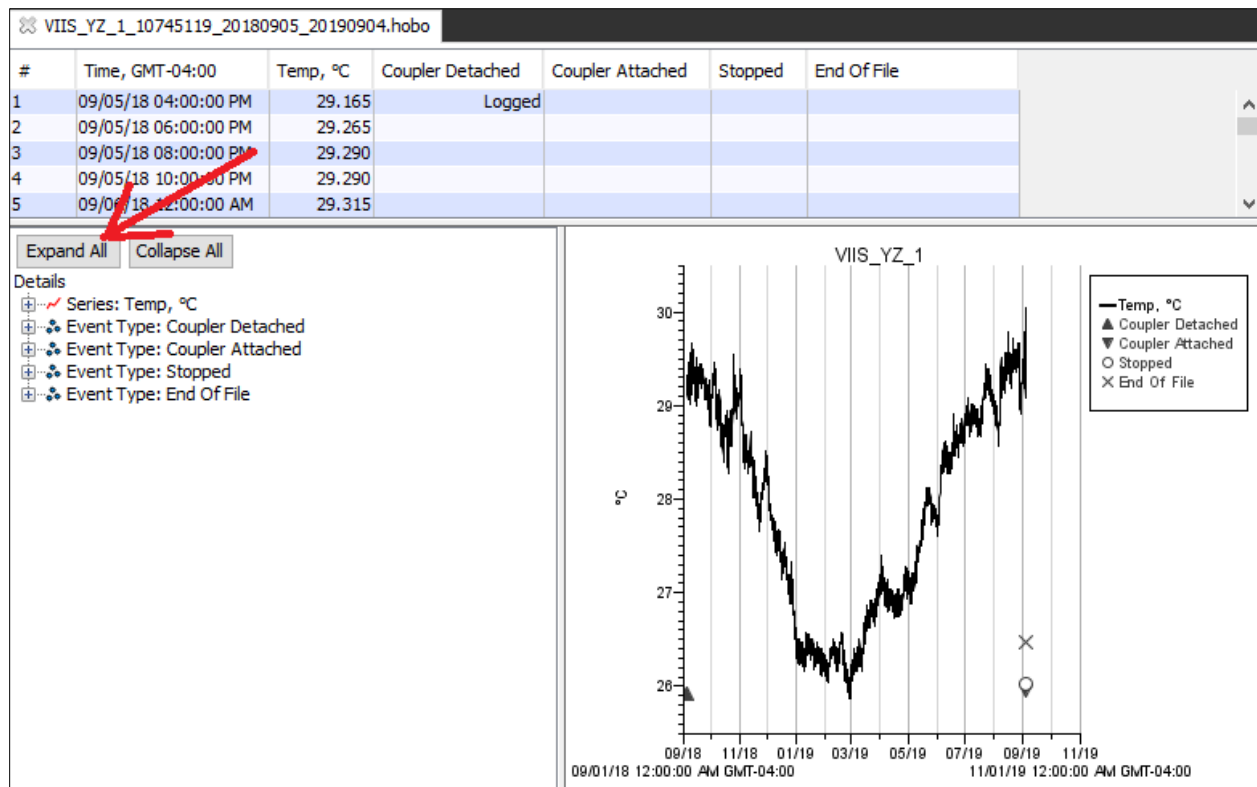

**Figure 3.** Click the “Expand All” button in the HOBOWare Pro window to find the Date of Issue for a logger.
7. In order to find the Date of Issue of a logger, open the \*.hobo file for the logger in question using HOBOWare Pro. Once the data are plotted, click the “Expand All” button on the left-hand panel of the window (Figure 3).